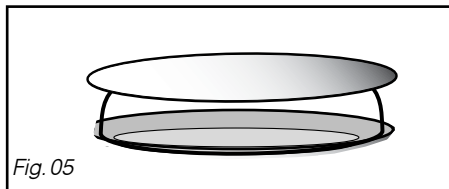

Fig. 05
- **The special microwave plate cover (Fig. 05):**